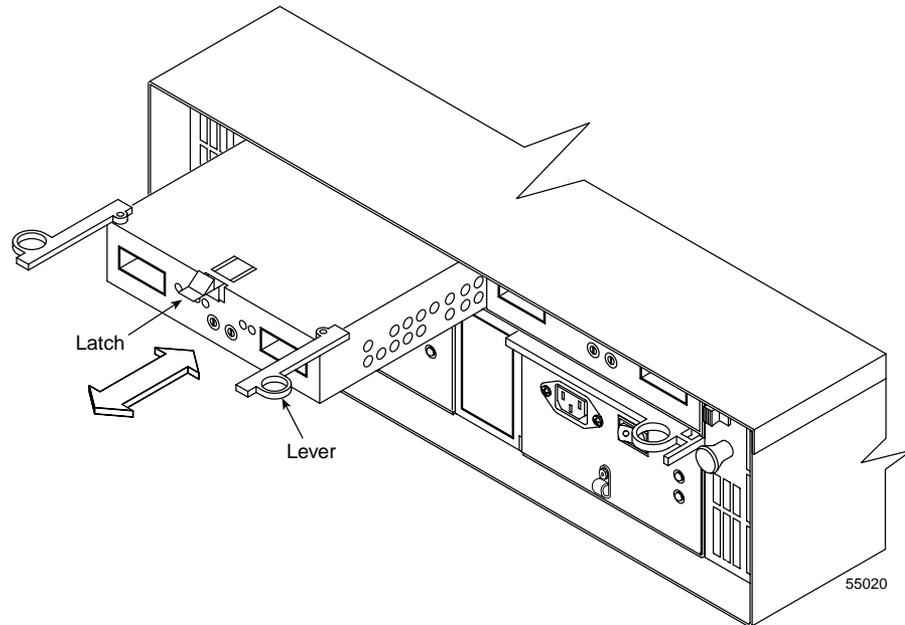

Figure 7-8 Removing and Installing an Environmental Status Module
7. Wearing antistatic protection, push down on the latch centered above the environmental status module (Figure 7-8).